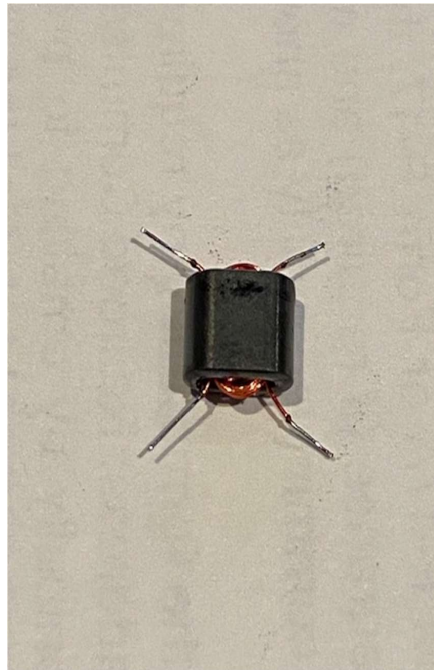

Figure 15. T2 Transformer Ready For Mounting On The PCB.
- v. Use the wire-stripping technique in building T1 above to complete stripping and tinning all four leads on the transformer. Trim the leads to fit the space allotted for T1 on the circuit board. See Figure 15.